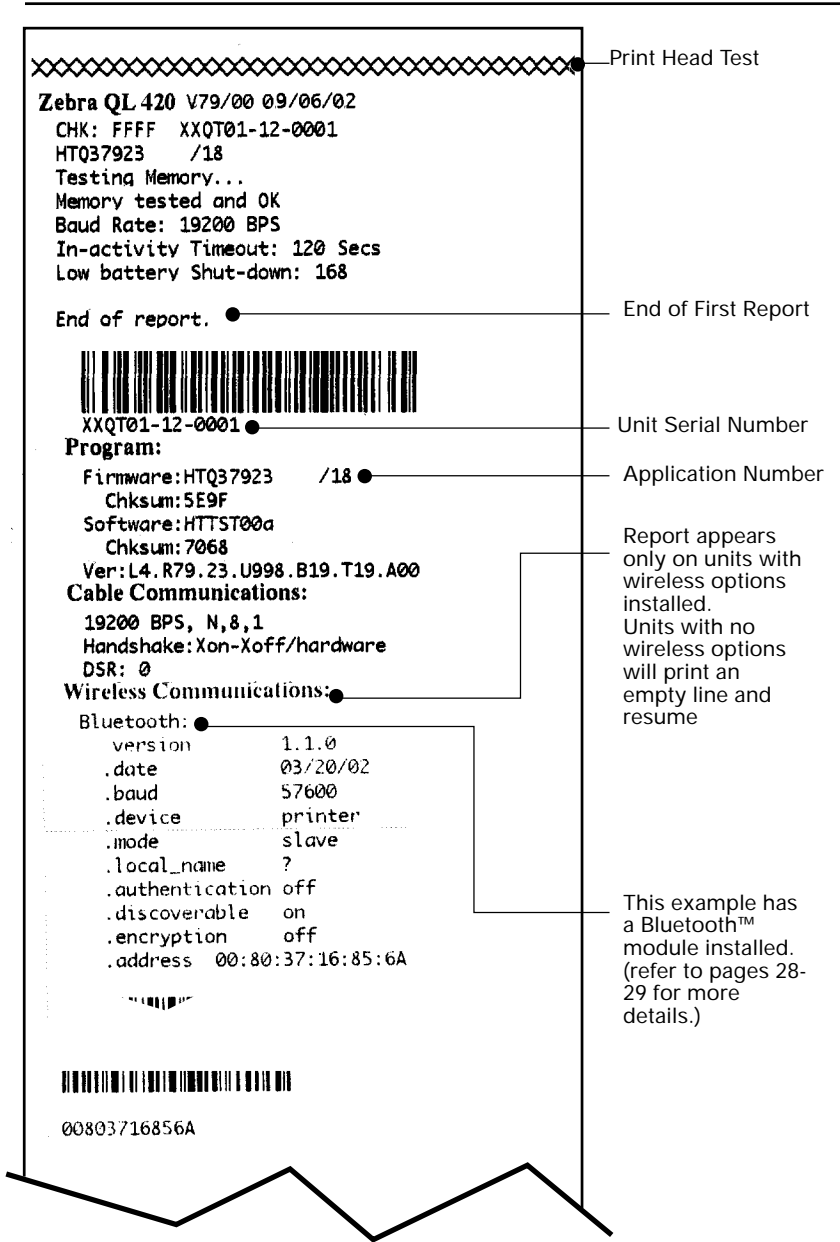

Figure 22: Configuration Label Example (QL 420 illustrated)
Refer to Figures 22 and 22a for a sample configuration print-out.
- Unit serial number (Found on the large label on the back of the printer, also found in the configuration label print-out. Refer to Figures 22 and 22a)